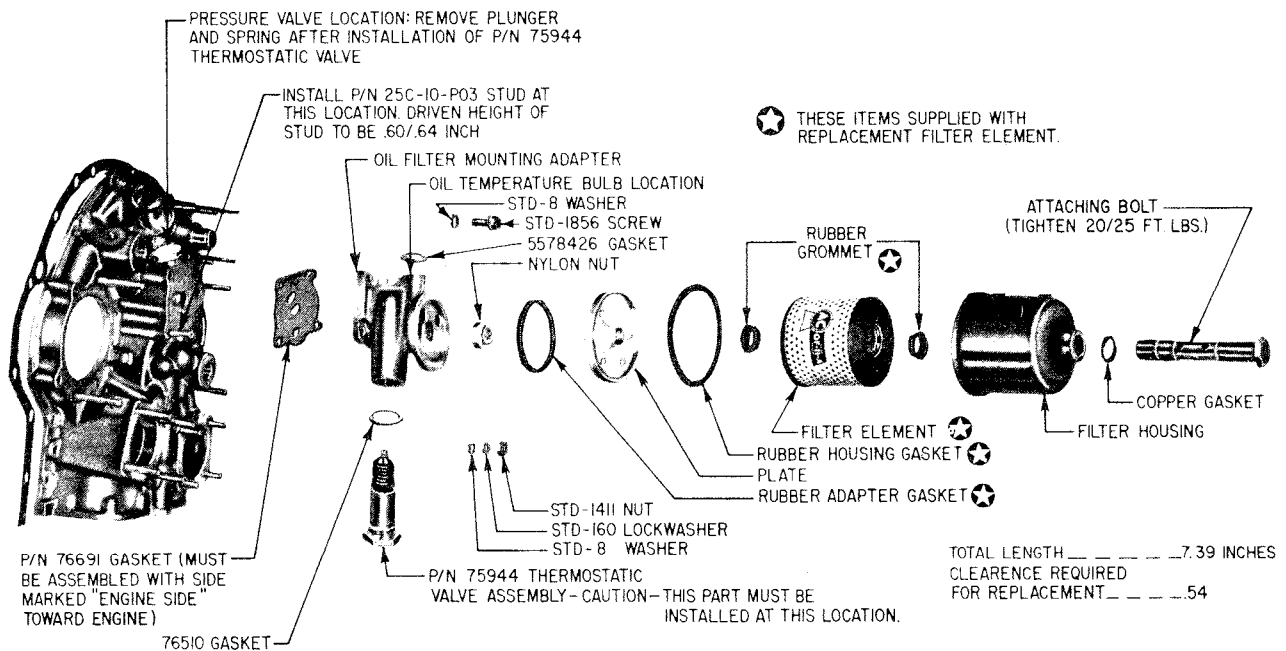
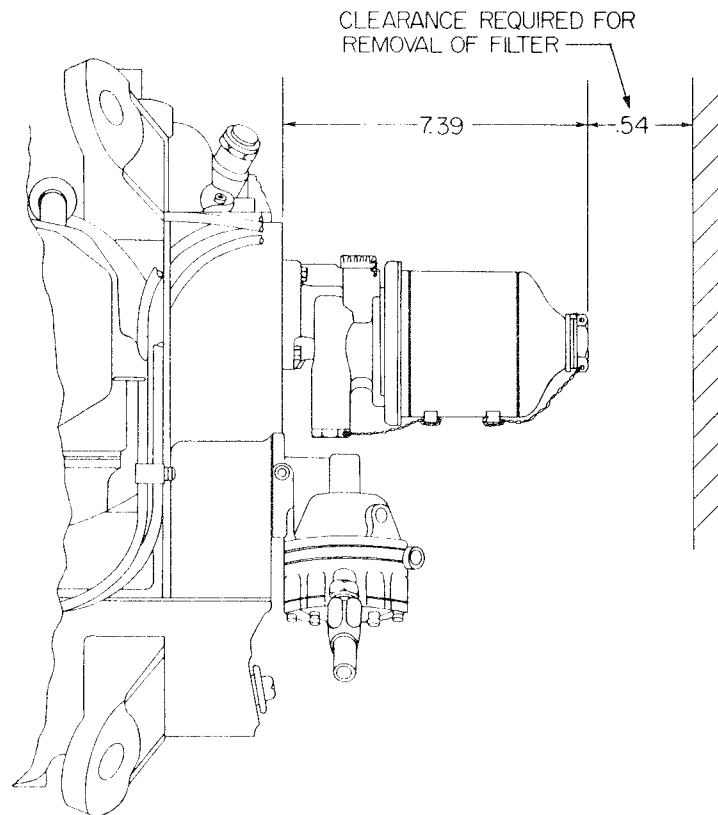

Figure 1. Exploded View of Full-Flow Oil Filter Assembly
Figure 2. Full-Flow Oil Filter Installed at Rear of Engine, Side View
The AC full-flow oil filter designed especially for use on Avco Lycoming engines is shown in figure 1. It is mounted on the accessory housing at the pad provided for the oil pressure screen chamber. The filter is mounted on the engine by means of a special adapter which also serves as a mounting for the thermostatic oil cooler bypass valve and housing for the oil temperature bulb.
Most models of Avco Lycoming direct drive engines can be converted to use the full-flow filter; however, before installation is accomplished, check the distance between the firewall and the mounting pad on the accessory housing. See figure 2.
4. If engine has not been equipped with a thermostatic by-pass valve, remove the plug located above the oil filter mounting pad and remove the spring and plunger that serve as an oil cooler by-pass valve. Replace the plug and gasket. See figure 1.
5. Using a 1/4 inch stud driver, install a P/N 25C-10-P03 stud (AC P/N 5579090) in the lower left tapped hole in the accessory housing mounting pad. See figure 1. Drive the stud to a height of .60/.64 inch.
- 12. Tighten the attaching bolt with 20 to 25 foot pounds torque. Lockwire the bolt through the loop on the side of the housing as shown in figure 2.
- 13. Using AC 5578426 gasket, install the oil temperature bulb at the location shown in figure 1. Note that the well provided for the oil temperature bulb is tapped 5/8-18 NF-3 to accommodate an MS 28034-1 temperature bulb. If a different type bulb is used an adapter may be required. Lockwire the oil temperature bulb as shown in figure 2.
- 14. A thermostatic oil cooler by-pass valve, P/N 75944, must be assembled at the location provided on the adapter. Use the gasket, P/N 76510, that accompanies the valve. See figure 1. Lockwire as shown in figure 2.
NOTE: Revision "A" to Service Letter No. L157 replaces AC 5579088 and AC 5579089 bolts with (3) STD-1856 self-locking screws; adds retapping instructions; replaces 74904 gasket with 76691 gasket; replaces AC 5579091 nut with STD-1411 nut; torque value 15 - 18 ft. lbs. changed to 20 - 25 ft. lbs.; torque value 60 in. lbs. changed to 75 in. lbs.; 69451 by-pass valve changed to 75944 by-pass valve; check for oil leaks added; revised figure 1 to reflect changes; changed 7.29 inch to 7.39 inch in figure 2; and revised lock-wiring in figure 2.